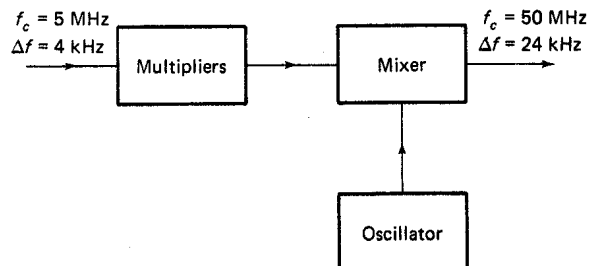

Fig. 4-16
**4.18** A 50-MHz FM signal is desired which is to have a frequency deviation of 24 kHz. The output of early stages of the transmitter is a 5-MHz signal with a frequency deviation of 4 kHz. How can the desired output be obtained? See Fig. 4-16.